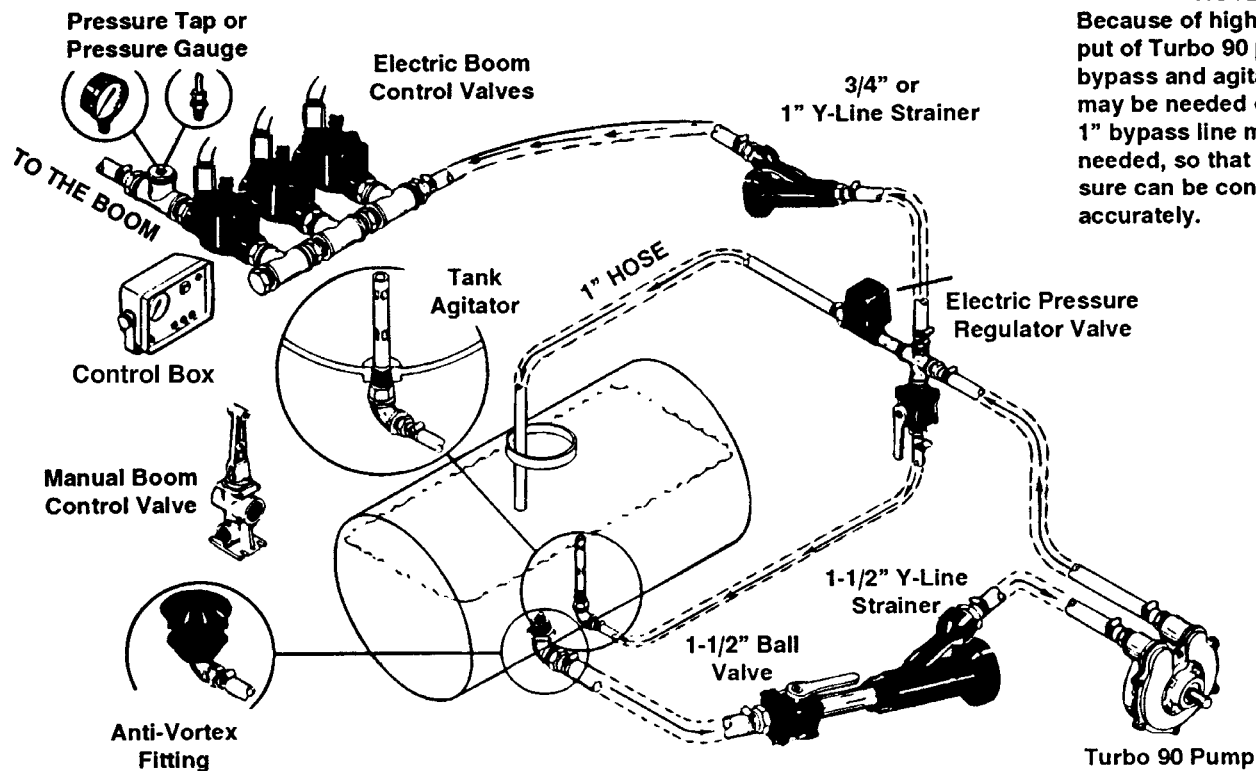

Figure 1. Plumbing for Pump Installation
7. With the pump in position, connect the inlet hose to the IN port. Use a 1 1/2" I.D. hose if you need maximum flow rates (Fig. 1).
8. A high capacity strainer with a 20-mesh screen must be used on the inlet side (Fig. 1).
9. For in-line protection of nozzles, use a 40-mesh strainer in the boom feed line. Use a 3/4" or 1" Y-type strainer (Fig. 1).
10. To regulate pressure, install either a 1 1/4" ball valve or 1" pressure regulating valve downstream from the pump discharge (Fig. 1). Do not use a spring-loaded valve.